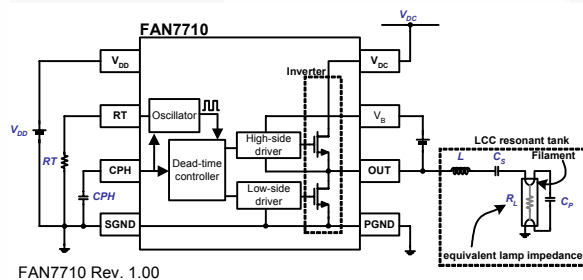
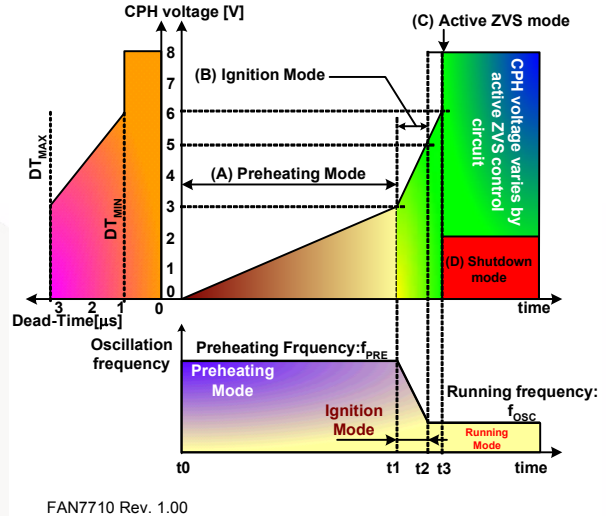

Figure 20. Resonant Inverter Circuit Based on LCC Resonant Tank
Figure 22. Operation Modes
FAN7710 has a high-side gate driver circuit. The supply for the high-side driver is applied between V_B and V_{OUT} . To protect from malfunction of the driver at low supply voltage between V_B and V_{OUT} , FAN7710 provides an additional UVLO circuit between the supply rails. If $V_B - V_{OUT}$ is under $V_{HSTH(ST+)}$, the driver holds low state to turn off the high-side switch, as shown in Figure 20. As long as $V_B - V_{OUT}$ is higher than $V_{HSTH(ST-)}$ after $V_B - V_{OUT}$ exceeds $V_{HSTH(ST+)}$, operation of the driver continues.
The ballast circuit for a fluorescent lamp is based on the LCC resonant tank and a half-bridge inverter circuit, as shown in Figure 20. To accomplish Zero-Voltage Switching (ZVS) of the half-bridge inverter circuit, the LCC is driven at a higher frequency than its resonant frequency, which is determined by L , C_S , C_P , and R_L ; where R_L is the equivalent lamp's impedance.
The transfer function of LCC resonant tank is heavily dependent on the lamp impedance, R_L , as illustrated in Figure 20. The oscillator in FAN7710 generates effective driving frequencies to assist lamp ignition and improve lamp life longevity. Accordingly, the oscillation frequency is changed in the following sequence:
FAN7710 has four operation modes: (A) preheating mode, (B) ignition mode, (C) active ZVS mode, and (D) shutdown mode, depicted in Figure 22. The modes are automatically selected by the voltage of CPH capacitor shown in Figure 20. In modes (A) and (B), the CPH acts as a timer to determine the preheating and ignition times. After preheating and ignition modes, the role of the CPH is changed to stabilize the active ZVS control circuit. In this mode, the dead time of the inverter is selected by the voltage of CPH. Only when FAN7710 is in active ZVS mode, is it possible to shut off the whole system using the CPH pin. Pulling the CPH pin below 2.6V in active ZVS mode causes the FAN7710 to enter shutdown mode. In shutdown mode, all active operation is stopped except UVLO and some bias circuitry. The shutdown mode is triggered by the external CPH control or the active ZVS circuit. The active ZVS circuit automatically detects lamp removal (open-lamp condition) and decreases CPH voltage below 2.6V to protect the inverter switches from damage.
When the CPH voltage exceeds 3V, the internal current source to charge CPH is increased about six times larger than I_{PH} , noted as I_{IG} , causing rapid increase in CPH voltage. The internal oscillator decreases the oscillation frequency from f_{PRE} to f_{OSC} as CPH voltage increases. Lowering the frequency increases the voltage across the lamp, as depicted in Figure 22. Finally, the lamp ignites. Ignition mode is defined when CPH voltage lies between 3V and 5V. Once CPH voltage reaches 5V, the FAN7710 does not return to ignition mode, even if the CPH voltage is in that range, until the FAN7710 restarts from below $V_{DDTH(ST-)}$. Since the ignition mode continues when CPH is from 3V to 5V, the ignition time is given by: